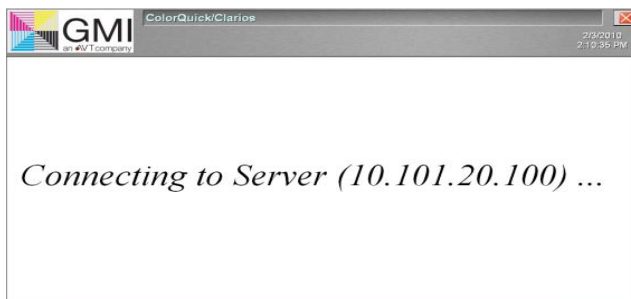

Fig 82
1. If the system fails to boot and below screen does not change state as previously described Fig 81 and goes not further than shown in fig 82: